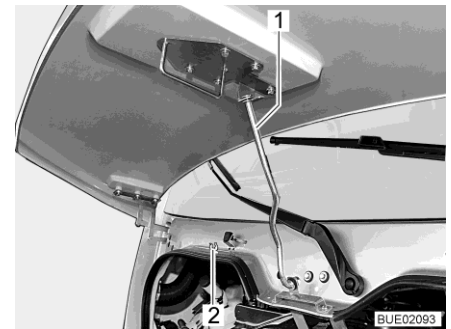

Fig. 42 Securing rod (Ixeo I)
- Take securing rod (Fig. 42,1) out of holder (Fig. 42,2) and hook into retainer on the bonnet.
- Unhook securing rod (Fig. 42,1) from retainer on the bonnet and press into holder (Fig. 42,2).